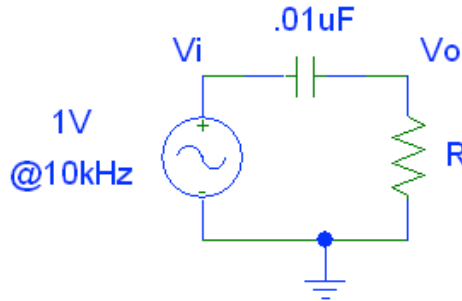

Figure 1: First RC Network
1. Assume $v_i(t) = \cos(\omega t)$ in the circuit in Figure 1, such that $f = \omega/(2\pi) = 10\text{kHz}$. Measure the phase shift in degrees between v_i and v_o for the following values of R in the RC network shown in Figure 1.